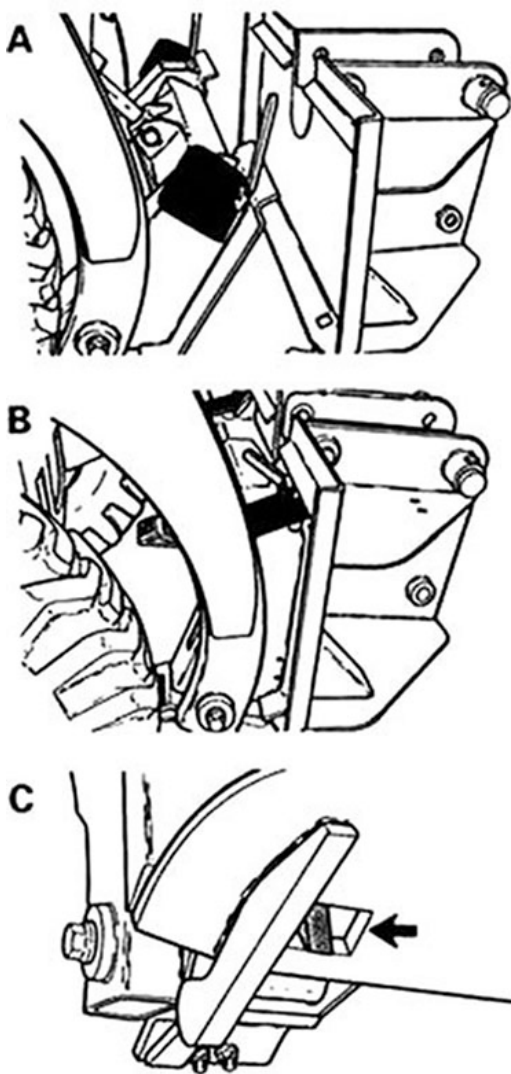

Figure 1-12, Views A, B, and C installing attachments.
2. Drive the loader forward to the attachments frame until the top edge of the mount frame is under the flange views A and B (fig. 1-12).
4. Push down on the mount frame levers until they are in the LOCKED position View C (fig. 1-12).
**NOTE:** Check that both wedges extend through the holes of the breaker-mounting frame view C (fig. 1-12).